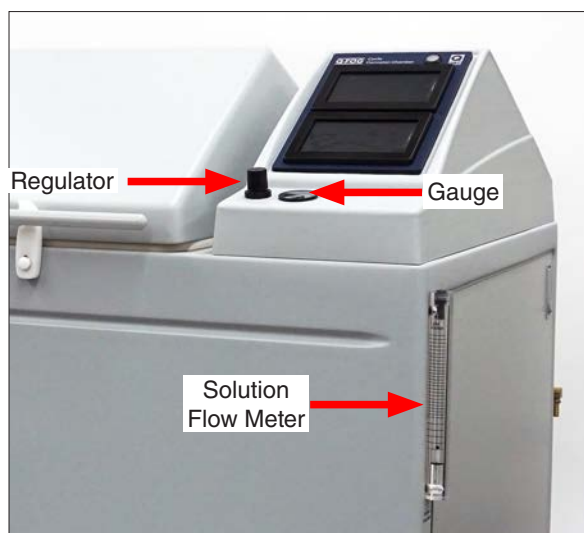

Figure 12.3.1: Fog Spray Pressure Regulator, Pressure Gauge and Flow Meter.
- The flow rate in liters per hour is displayed on the solution flow meter. (Figure 12.3.1).
- The fog spray pressure is set by the fog pressure regulator and shown on the fog pressure gauge (Figure 12.3.1).